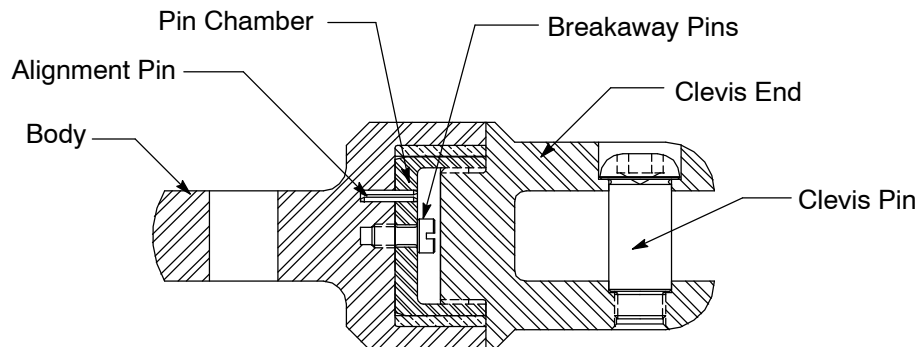

Figure 2
- (i) The Series 00560 breakaway connector is made up of six basic components, as shown in Figure 2 below. The breakaway pins can be assembled in any configuration, provided they are installed in a symmetrical pattern. Separation will occur at the value equal to the sum of the pin values.